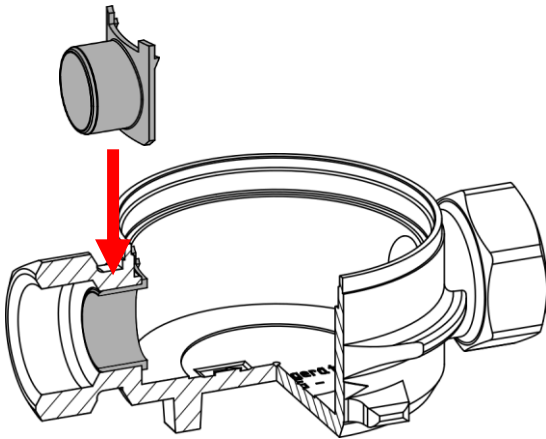

Figure 17. Installation of the fixing piece WGU
1. Insert the fixing piece into the inlet side of the EAT (Fig. 17).